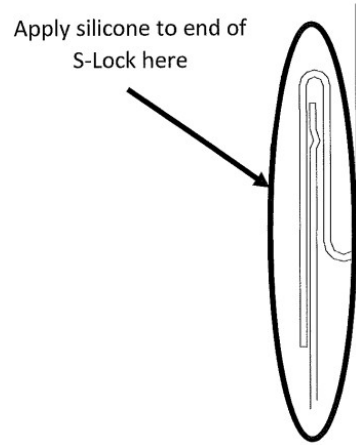

Figure 10
- **Warning – Apply silicone at all ends of metal S-Locks: in all openings, windows, doors, and corners (See Figure 10)**